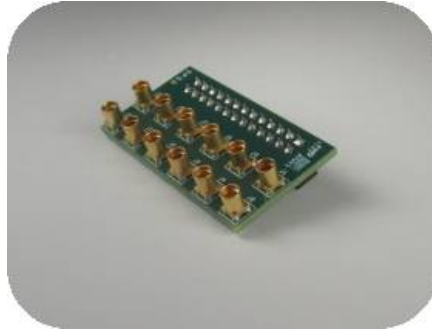

Figure 24: SP53, MMCX Adapter Board allows easy access to individual bits
6. SP53, SpinCore MMCX Adapter Board (Figure 24) – This adapter board allows easy access to the individual bits of the SP48 and SP50 PulseBlaster. For ordering information, please visit <http://spincore.com/products/Adapters/> or contact SpinCore at <http://www.spincore.com/contact.shtml>.